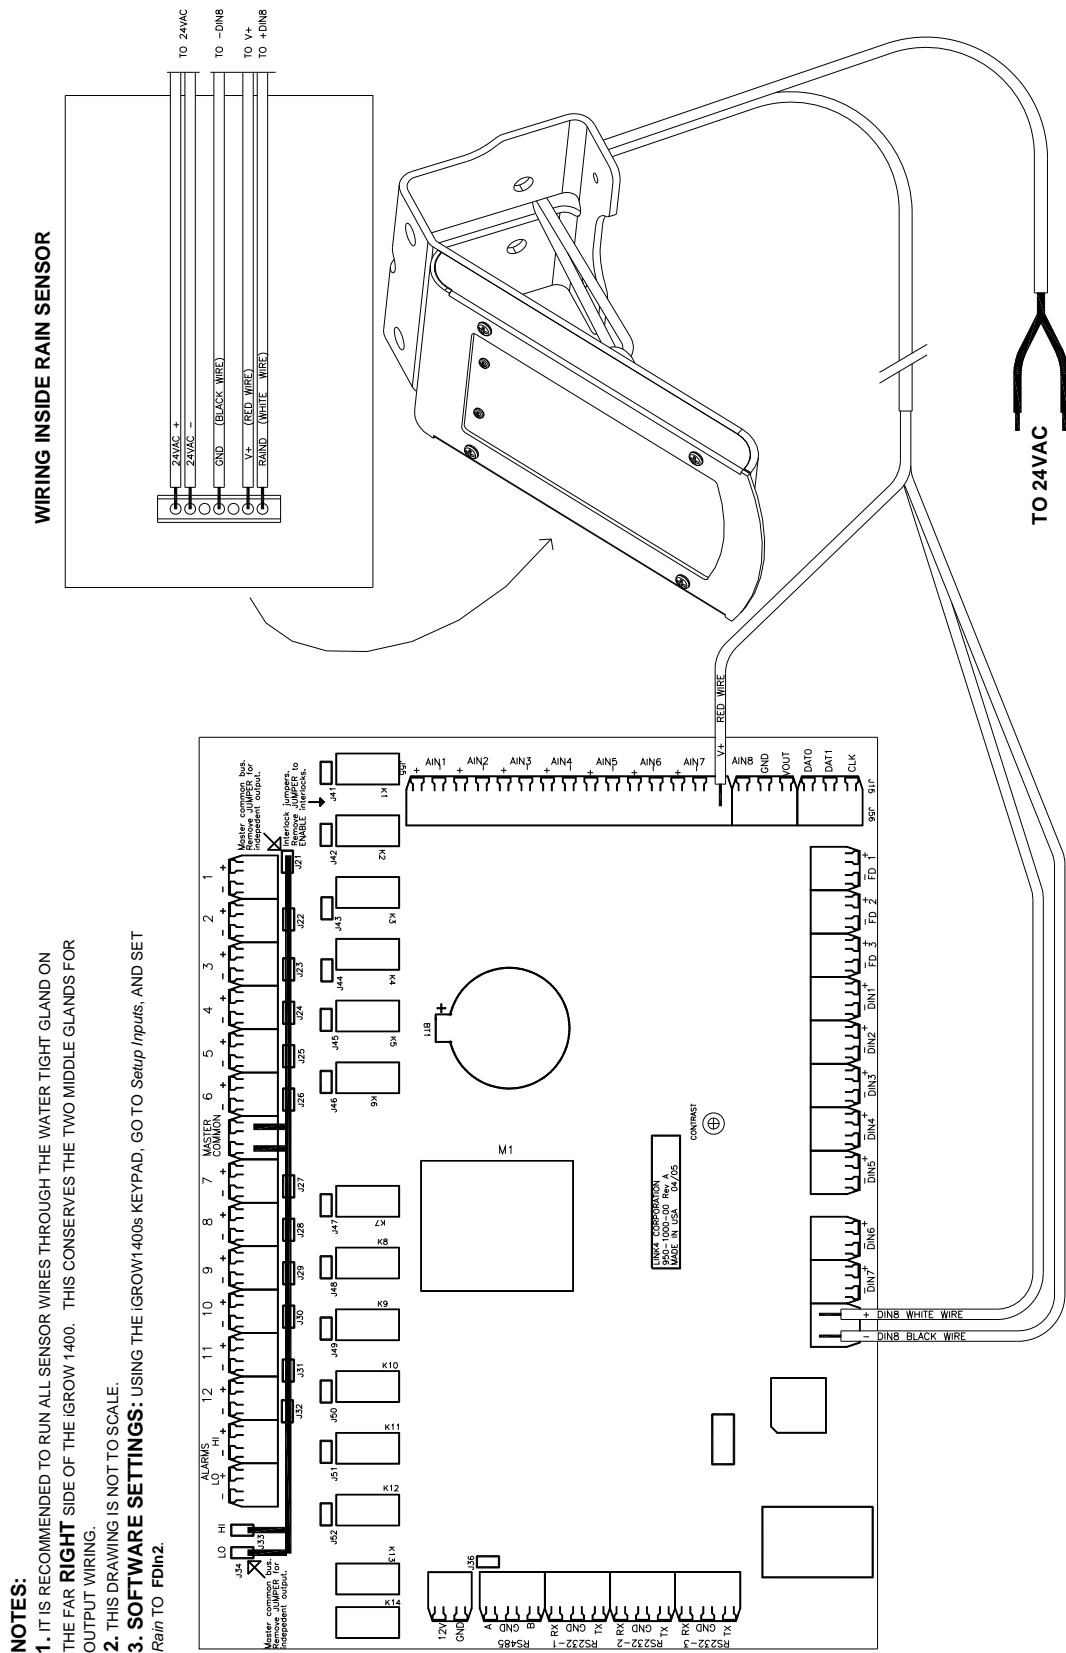

Figure 4.16a Wiring Precipitation Sensor
7. Connect the wires as shown in Figure 4.16a.